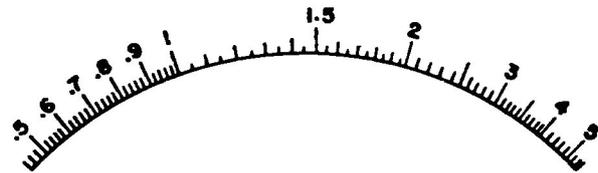

Figure 2-3. A Representative Logarithmic Meter Scale
b. UNIFORM PERCENTAGE OF ACCURACY—Electronic Multimeter ME-6D/U employs a voltage scale over which a uniform percentage of accuracy is maintained over the entire scale arc. Reference to figure 2-3, illustrating a log scale, shows that the scale used in the present equipment does not have equal spacing between each calibration mark. This non-linearity has the advantage of spreading out the lower end of the scale. Readings can, therefore, be obtained with more accuracy than is possible with a linear scale, for the following reason:
(1) Referring to figure 2-3, let us suppose first that a 0.5 volt signal is being measured and that this voltage changes by 100% or by 0.5 volt. Note the deflection which this change gives on the logarithmic meter scale. Now suppose that a 1.5 volt signal is being measured and that this voltage changes by 100% or by 1.5 volts. Note that a change in voltage from 1.5 to 3 volts gives approximately the same change in pointer deflection as a change from 0.5 to 1 volt. In each case the change in input voltage is 100%, and this